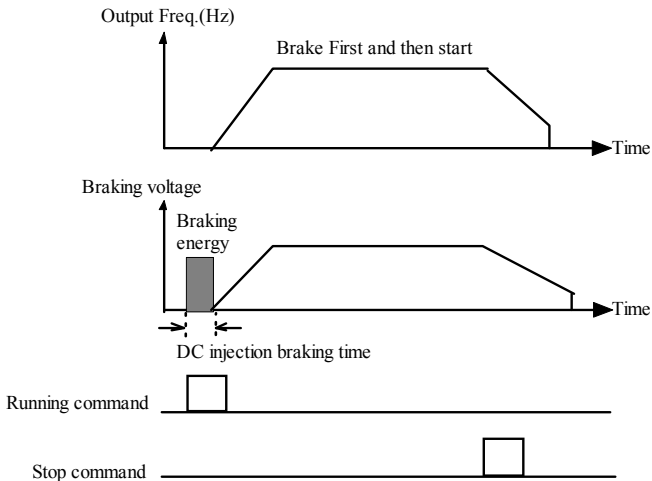

Fig. 5-1-1 Brake first and then start
- ◆ First brake (excitation) and then start at the start-up frequency: Inverter adds some DC braking power to load first, and then startup. As shown in Fig. 5-1-1. Starting mode 1 is suitable for small inertia load which is running forward or reverse while the inverter is in stop state, such as fan load. DC braking parameters refer to P1.03 and P1.04.
- ◆ P1.03 and P1.04 are only active when P1.00 is set to 1 (start mode 1 is selected), as shown in Fig. 5-1-1.